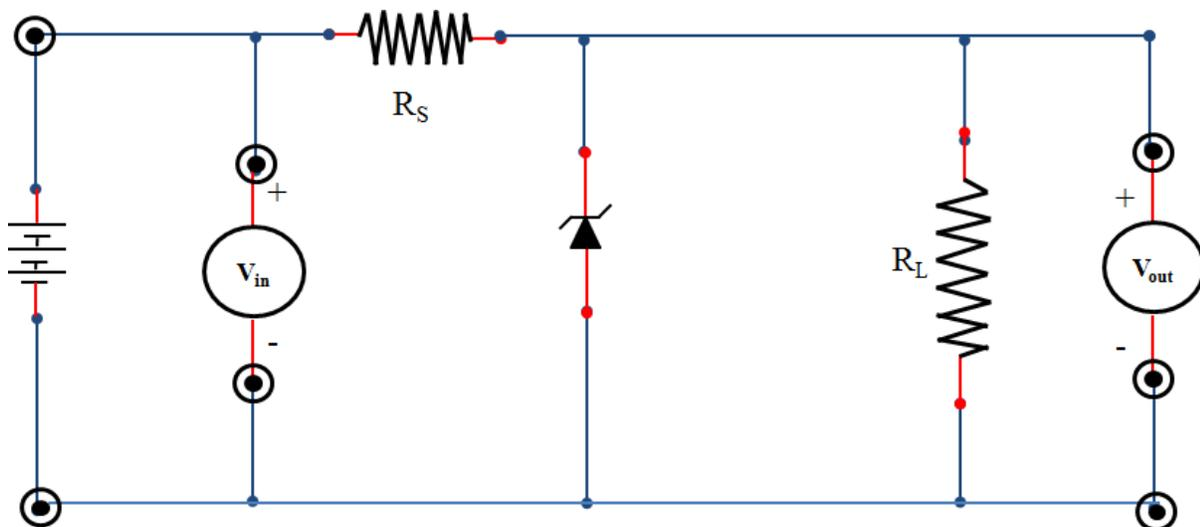

Figure 2. Circuit diagram for voltage regulation using zener diode
When the external voltage applied to the junction is in such a direction that the potential barrier is increased, it is called reverse biasing. To apply reverse bias, connect negative terminal of the battery to *p*-type and positive terminal to *n*-type as shown in Figure 2.
Figure 2. (a) Symbolic representation of a forward bias  $pn$  junction diode (b) A representation of  $p$  type and  $n$  type wafers sandwiched together in a forward bias mode.
The basic circuit of Zener diode as DC voltage regulating circuit is shown in the figure 2. The Zener diode with breakdown voltage  $V_z$  is reverse biased and is connected in parallel with the load resistance  $R_L$  across which a constant output voltage is desired.
1. Make the connections as shown in figure 2.